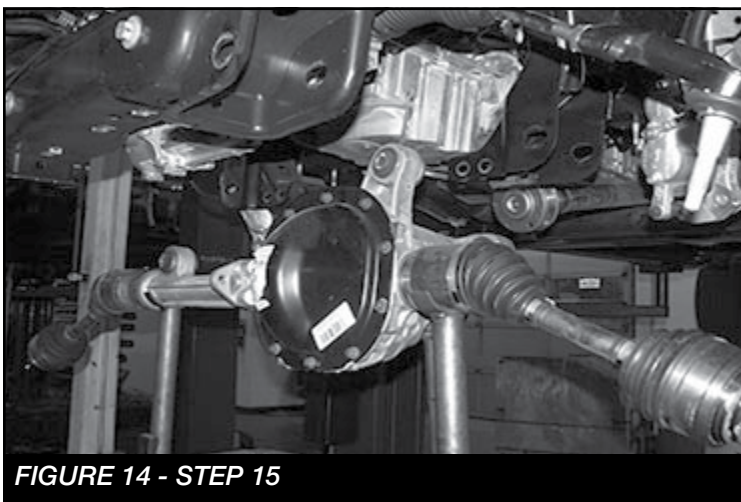

FIGURE 14 - STEP 15
15. Supporting the differential, remove the 3 differential mount bolts and save for re-installation. Remove the differential from the vehicle. **SEE FIGURE 14**